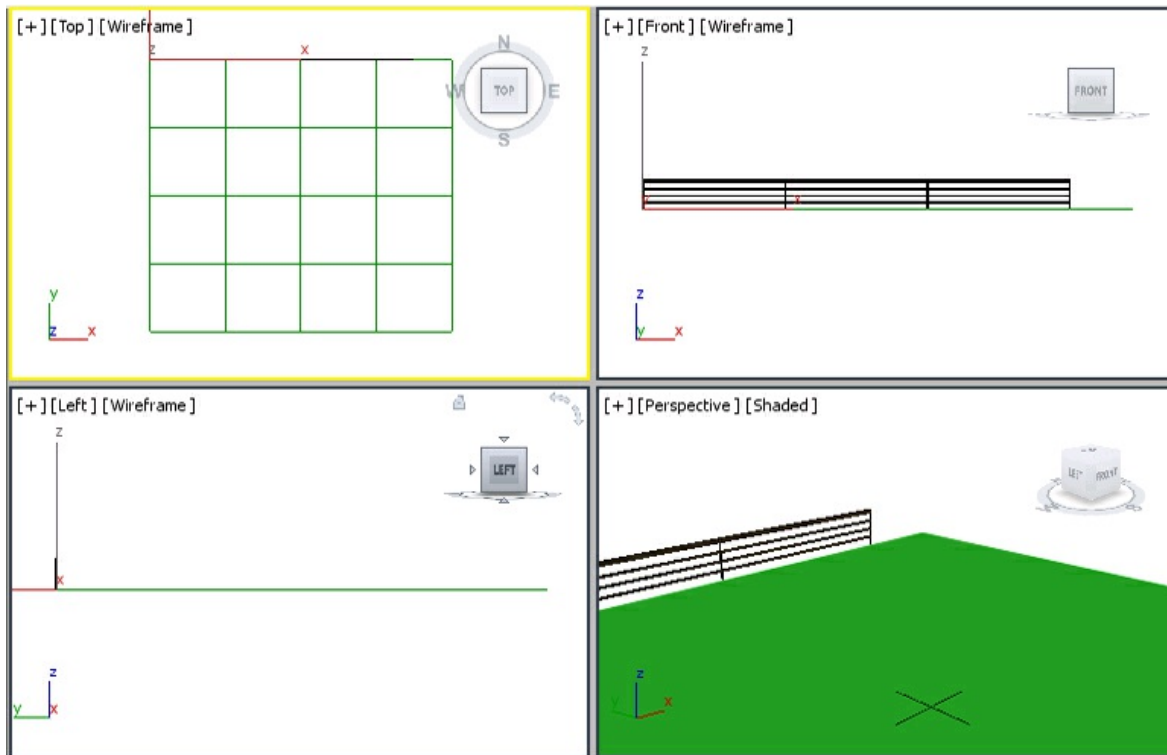

Figure 4-56 The railing01 displayed in viewports
7. Choose the **Lower Rail Spacing** button in the **Lower Rail(s)** area; the **Lower Rail Spacing** dialog box is displayed. Make sure the **Count** check box is selected. Next, set the value **3** in the spinner on the right side of the **Count** check box and choose the **Close** button; the railing is displayed in all viewports, as shown in Figure 4-56.